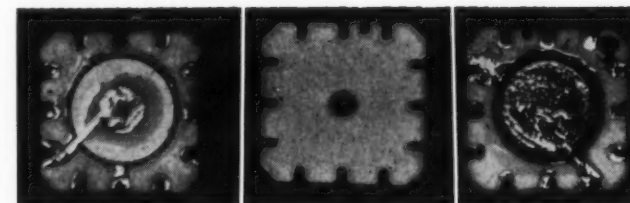

Fig. 1-4. Tinkertoy modular wafers. (Photo courtesy the National Bureau of Standards)
**B. Tinkertoy Modules.** The National Bureau of Standards developed a basic standardized wafer. As shown in Fig. 1-4, each wafer contains a component, or group of components. By proper inter-connection (stacking) it is possible to make complex circuits. This basic concept is now commercially produced\* in small lots for developmental circuit work while improvement continues.